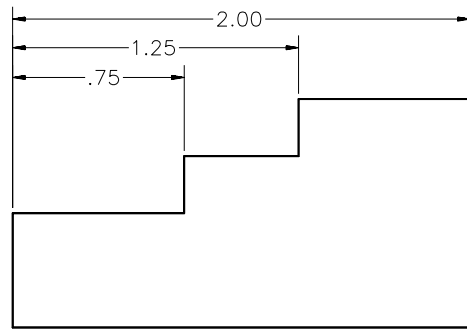

Figure 9-18 Drawing for Exercise 3, after
3. Edit the dimensions so that they match the dimensions, as shown in Figure 9-18.